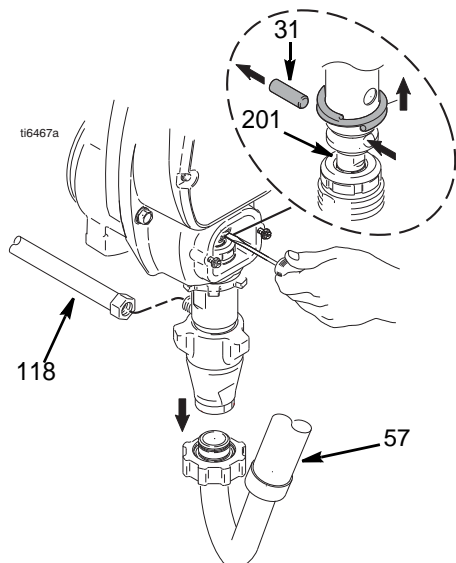

FIG. 16
3. FIG. 16. Stop pump with piston rod (201) in its lowest position.
5. FIG. 16. Remove hose (118) and suction hose (57). Use screwdriver; push retaining spring up; push out pin (31).